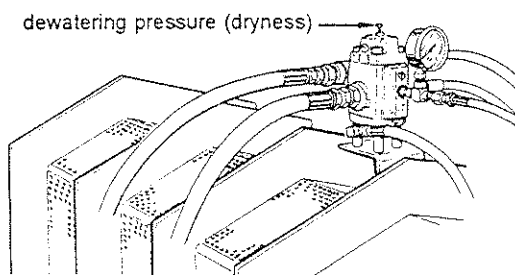

Fig. 31 Restriction system unloader valve and static pressure gauge
Use a screwdriver to adjust the static relief valve while viewing the static pressure gauge (fig. 31). Turning the static relief valve adjustment clockwise raises the static pressure. Turning the adjustment counterclockwise lowers the static pressure.
•**Product too wet, restriction system not unloading** Increase the static relief valve pressure setting by adjusting clockwise in increments of 100 psi (viewed on the restriction system static pressure gauge, fig. 31). Turning the static relief valve adjustment clockwise increases the force available for the restriction control unloader valve to use in controlling plunger pressure and product dryness.